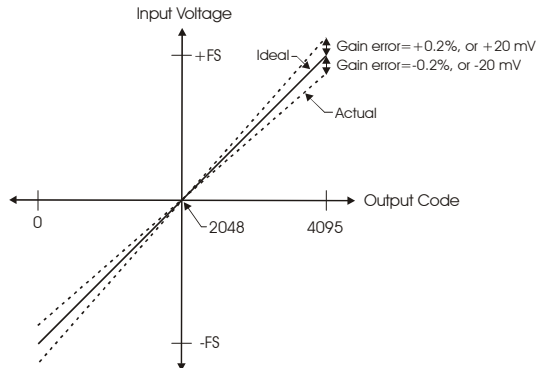

Figure 4-11. ADC Transfer function with gain error
Gain error is a change in the slope of the transfer function from the ideal, and is typically expressed as a percentage of full-scale. Figure 4-11 shows the PMD-1208LS transfer function with gain error. Gain error is easily converted to voltage by multiplying the full-scale (FS) input by the error.